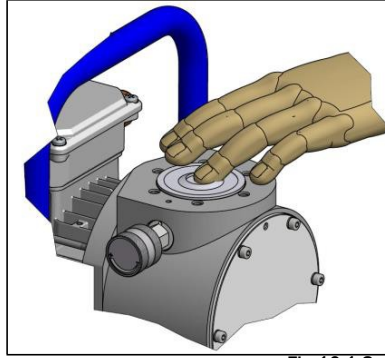

Fig.10.1.8
5. (Fig.10.1.8) Press the membrane with your hand and turn on the machine using the power switch. As soon as the hydraulic oil between the membrane and the casing is pushed out, turn the machine off again. The leaked oil must be immediately removed. The hydraulic unit is now vented!